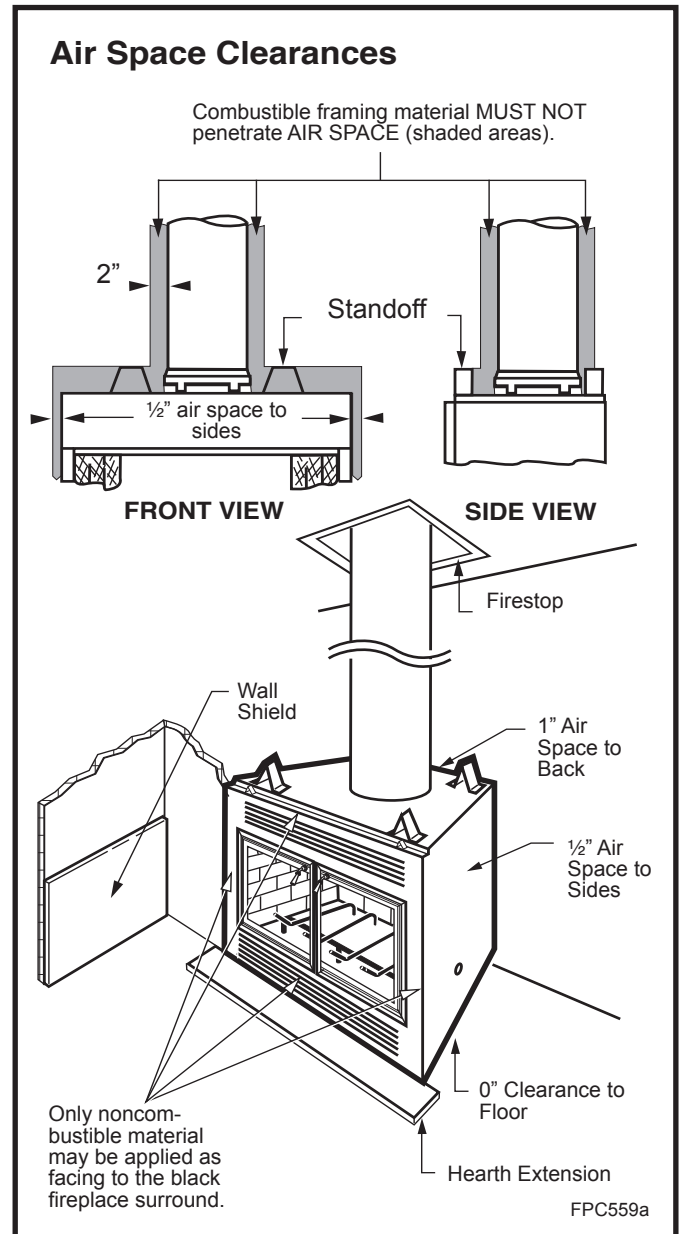
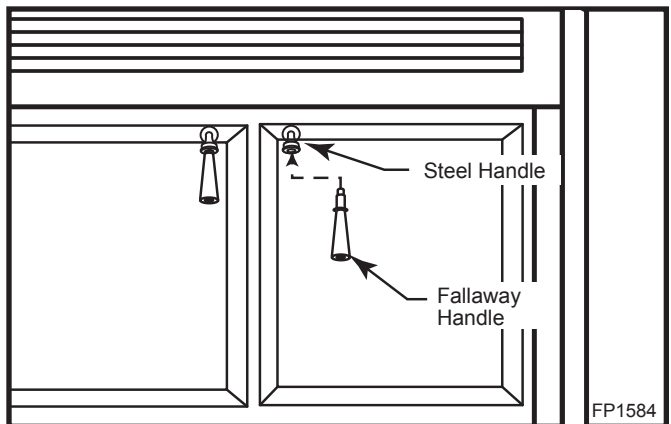

Fig. 18 Minimum clearances to combustibles.
Fig. 24 Insert fallaway handle into steel handle.
CAUTION: All joints between the finished wall and the fireplace surround (top/sides) must be sealed with non-combustible material to prevent cold air leakage into the room. Only noncombustible material may be applied to the facing of the fireplace surround. (Black painted area) (Fig. 18)
Adjacent combustible side walls that are within minimum dimensions shown in Figure 24 of the fireplace opening must be protected with CFM Corporation Wall Shield Model SP40 or a specifically built wall shield described in Figure 18.
The special wall shield design described in Figure 18 is an alternate method of adding protection to side walls and can be used in place of the SP40 with the same wall clearances specified for the SP40. Rt must =1.85 minimum.
Alternate noncombustible materials may be used providing the (total) thermal resistance (Rt value) of the alternate material employed is greater than or equal to $R = 1.09$ Thermal resistance (R) or thermal conductivity (K), may be obtained from manufacturer of the material. Factors are related by the formula $K = 1/R$. (Fig. 24)
The fallaway handles are used to open and close the front doors. The fallaway handles may be removed after each use or may be left in place. **CAUTION:** If the handles are left in place during operation, they may become hot. (Fig. 24)